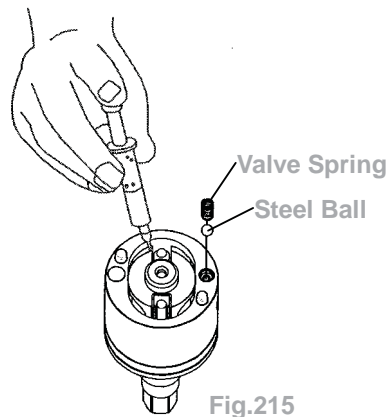

Fig.215
- 4.3 Fill up the interior pulse cylinder with the pulse oil about 90% full by a syringe. Put the steel ball and the valve spring into the hole on the pulse cylinder in order. (Fig. 215)